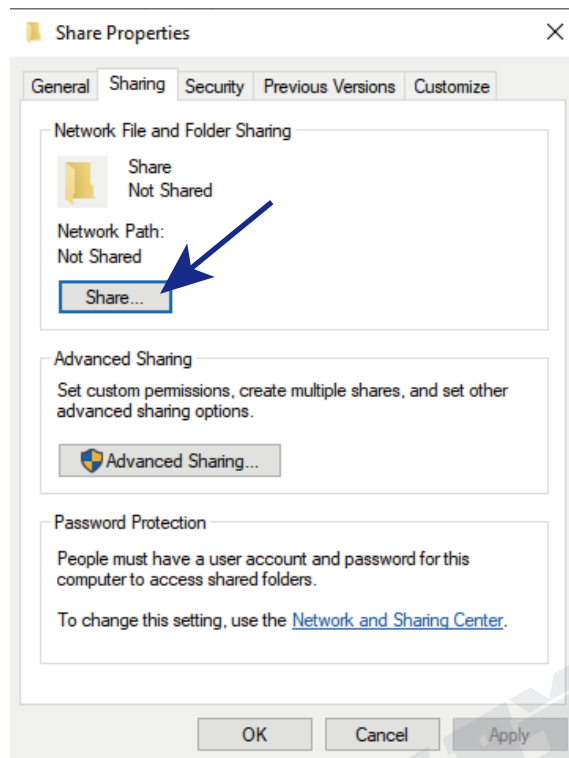

Figure 8-28
- 1) Right click the folder and click “Properties”, the “Properties” window popup as figure 8-28 shows;